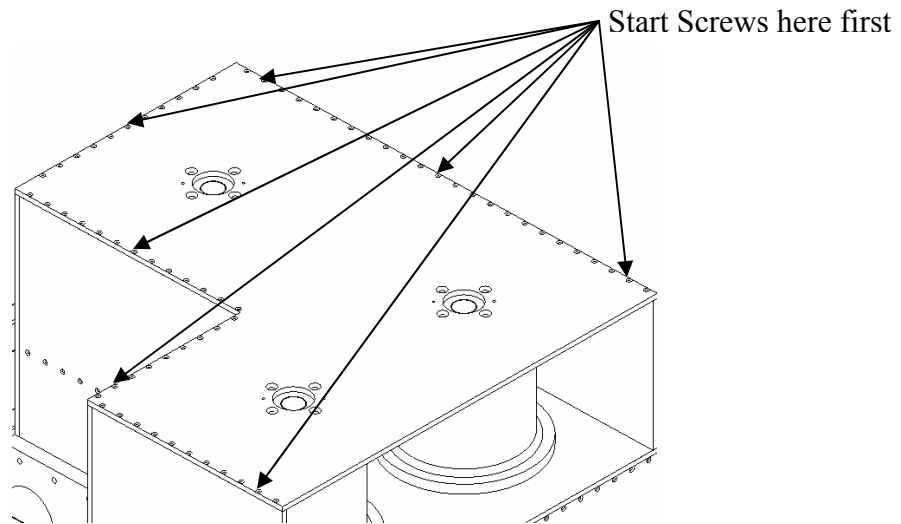

Figure 6
7. Start the 6-32 x 3/4 FHCS in the holes on the edges of the vertical plates. Make sure to get a few started on each row of screws before tightening any of them down as seen in figure 6.